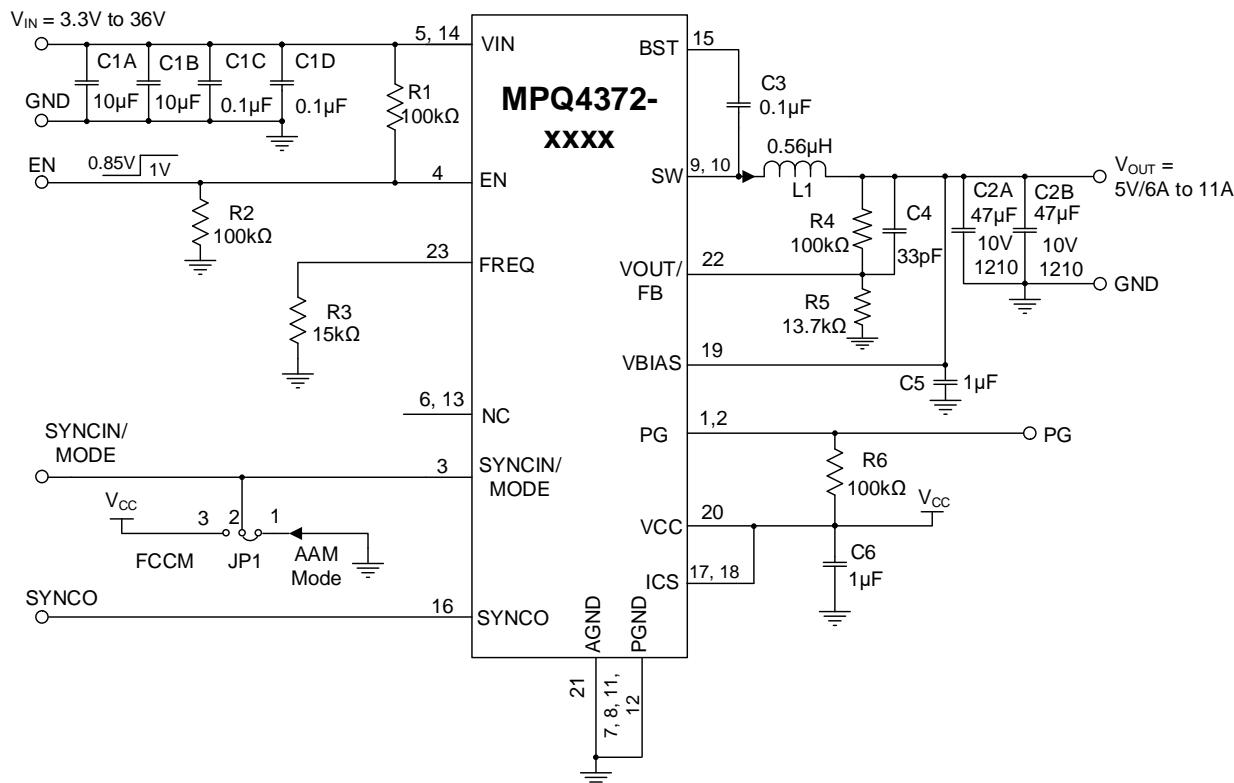

Figure 14: Typical Application Circuit (Single-Phase,  $V_{OUT}$  Adjustable for the MPQ4372-xxxx,  $V_{OUT} = 5V$ ,  $f_{sw} = 2.2MHz$ )
15) The recommended PCB layout is based on Figure 14 on page 76.